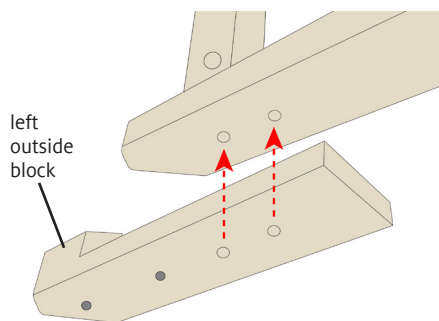

FIGURE 2: ALIGN HOLES
2. Identify the height extender blocks for the outside legs, marked LO and RO as shown on the previous page. The top two holes of these blocks line up with holes at the bottom of the outside legs (Figure 2).